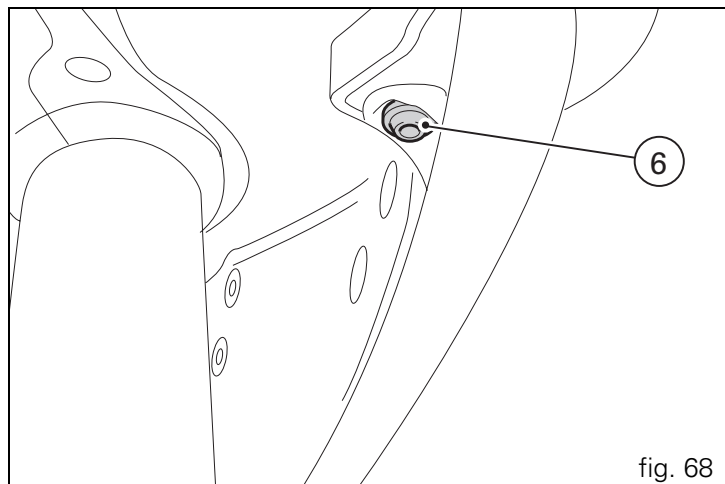

fig. 68
- the two bolts (1) securing the fairing panels to the brackets;
- the six bolts (2) securing the fairing panels to the headlight fairing;
- the four bolts (3) securing the fairing panels to the frame;
- the two bolts (4) located under the fairing that join the right fairing panel to the left fairing panel;
- the two bolts (5) securing the fairing panels to the oil cooler;
- the two bolts (6, fig. 68) securing the front of the fairing to the headlight fairing.